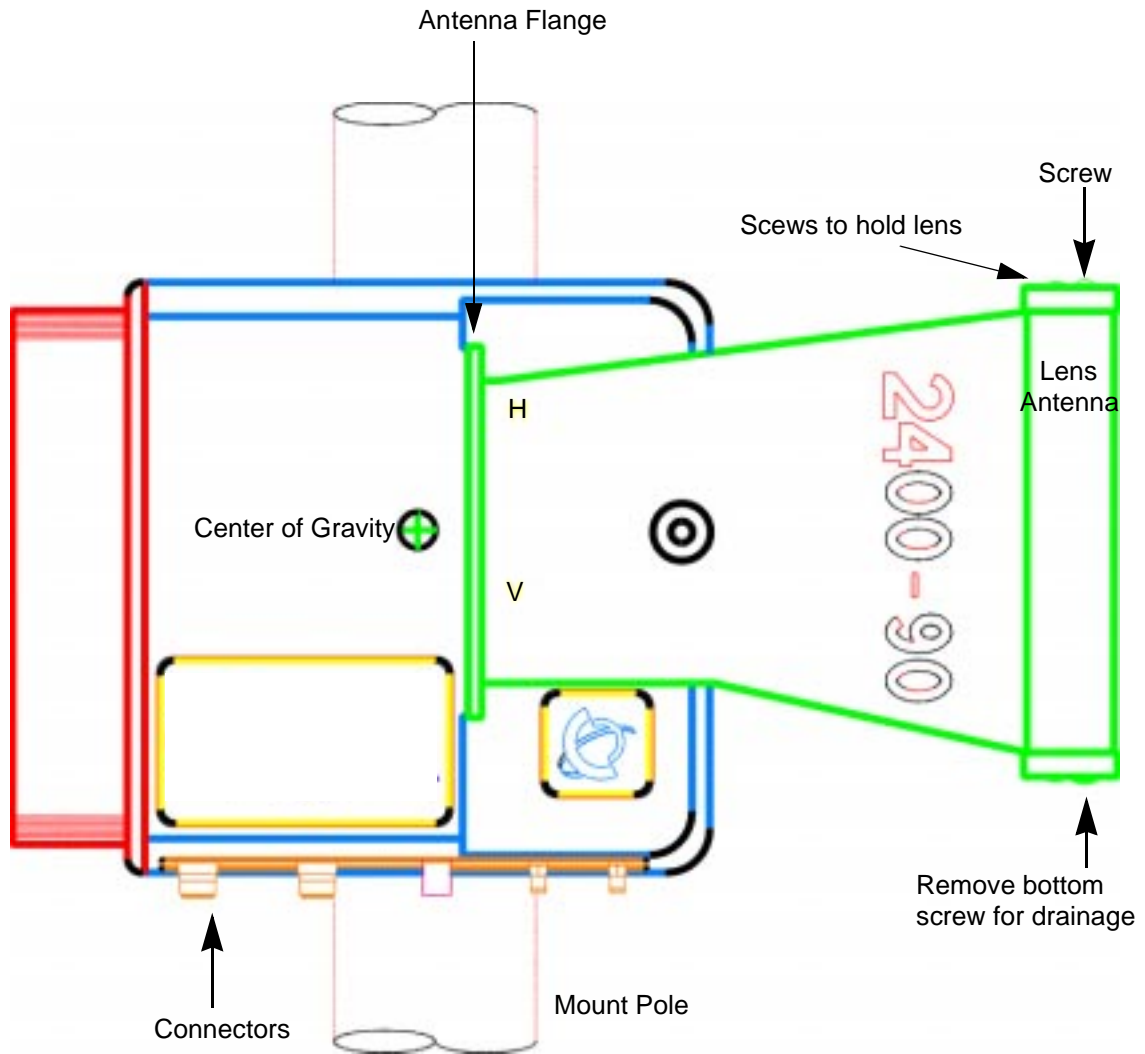

Figure 1-4
2. Mount the BTR 2400 to a stable pole using the supplied mounting brackets. The mounting brackets accommodate poles with outside diameters from 2.5" to 4.5". See Figures 1-4, 1-5 and 1-12.
5. Install the BTR 2400 so that the fin array (heat sink) is positioned away from external barriers to allow heat dissipation through natural convection and radiation. See Figures 1-4 and 1-14.
8. Connect the telemetry cable from the BTR 2400 to the RPE 9000's telemetry connector. There is a 300 baud modem connection between the BTR 2400, the RPE 9000 and the RSM 9016. See Figures 1-4 and 1-13.